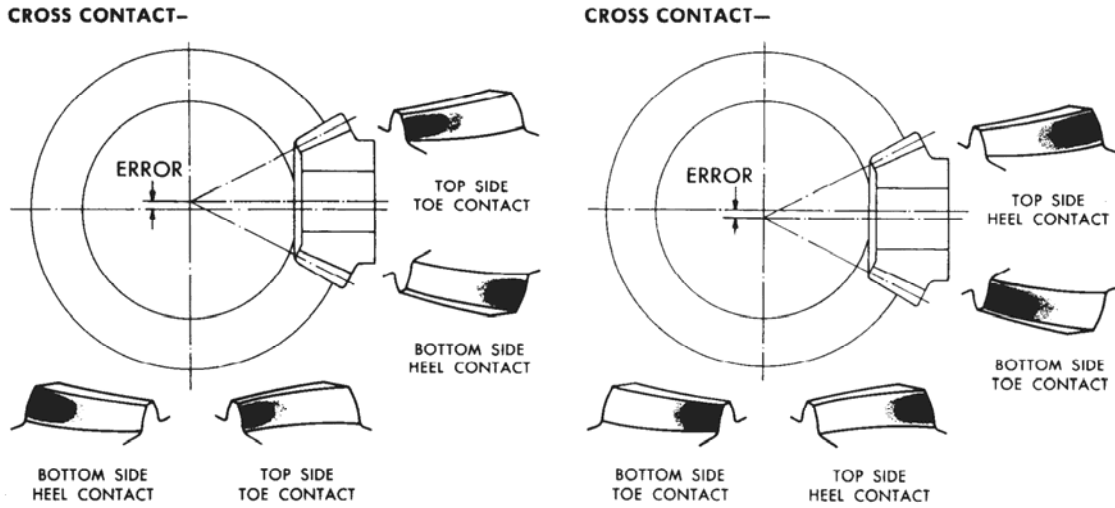

Figure 7
- 6.6 When a tooth contact occurs as shown in Figure 7 or 8, refer to the following instructions.